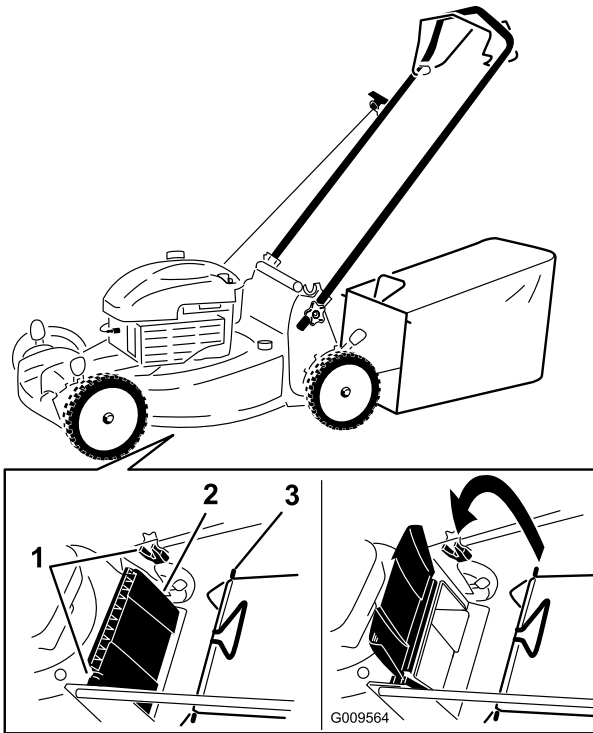

Figure 21
1. Raise and hold up the rear deflector (Figure 21).
2. Install the grass bag, ensuring that the pins on the bag rest in the notches on the handle (Figure 21).